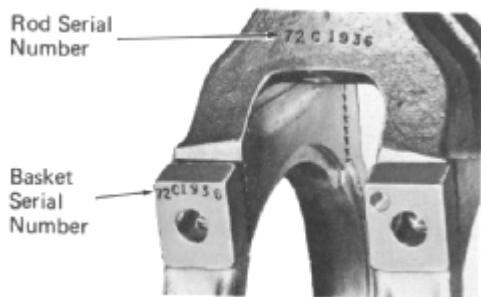

Fig. 5-31 - Rod And Basket Identification
13. Be sure and check, if a fork rod, that the rod and basket serial numbers match, Fig. 5-31.